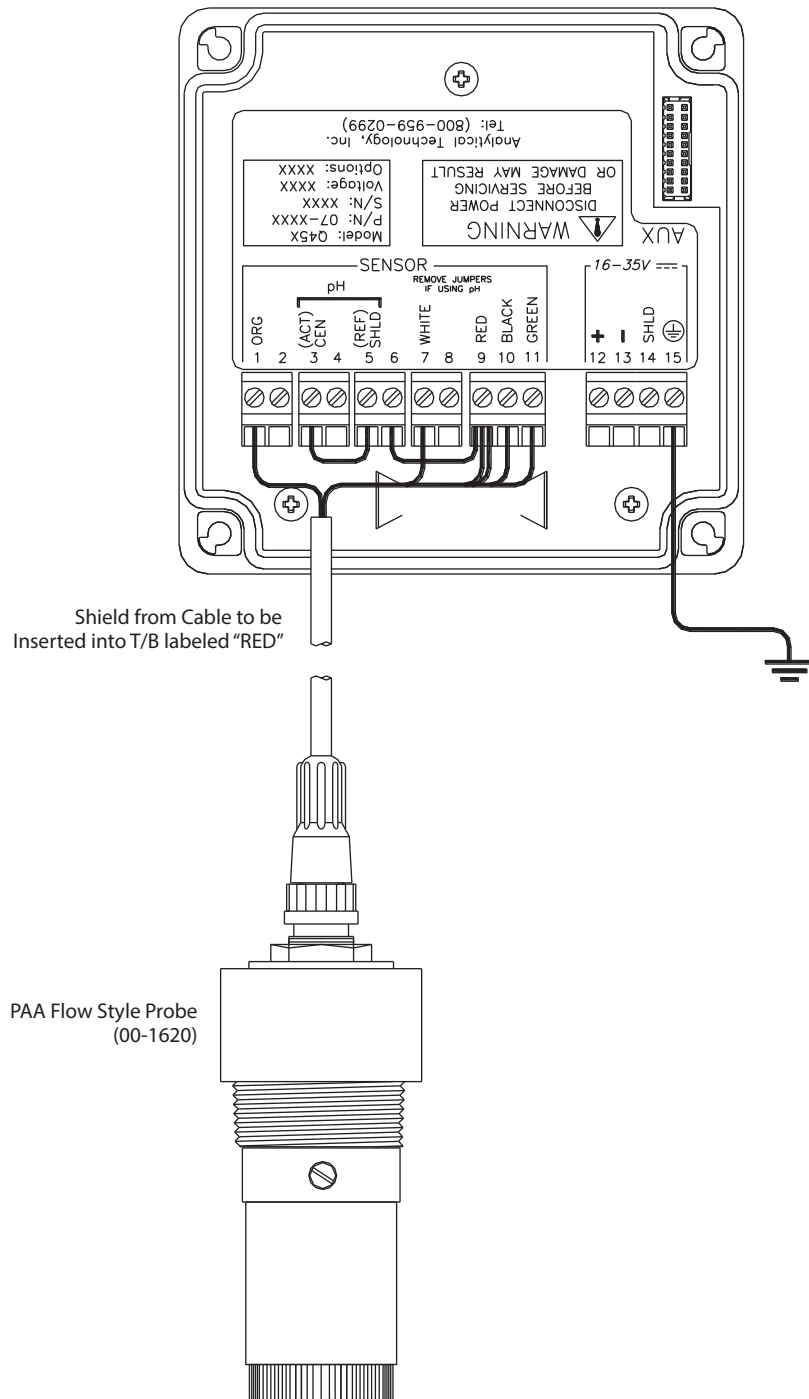

Figure 12: Loop-power sensor connection
1. Use wiring practices that conform to all national, state and local electrical codes. For proper safety as well as stable measuring performance, it is important that the earth ground connection be made to a solid ground point from Terminal 15. See Figure 12 on page 19.